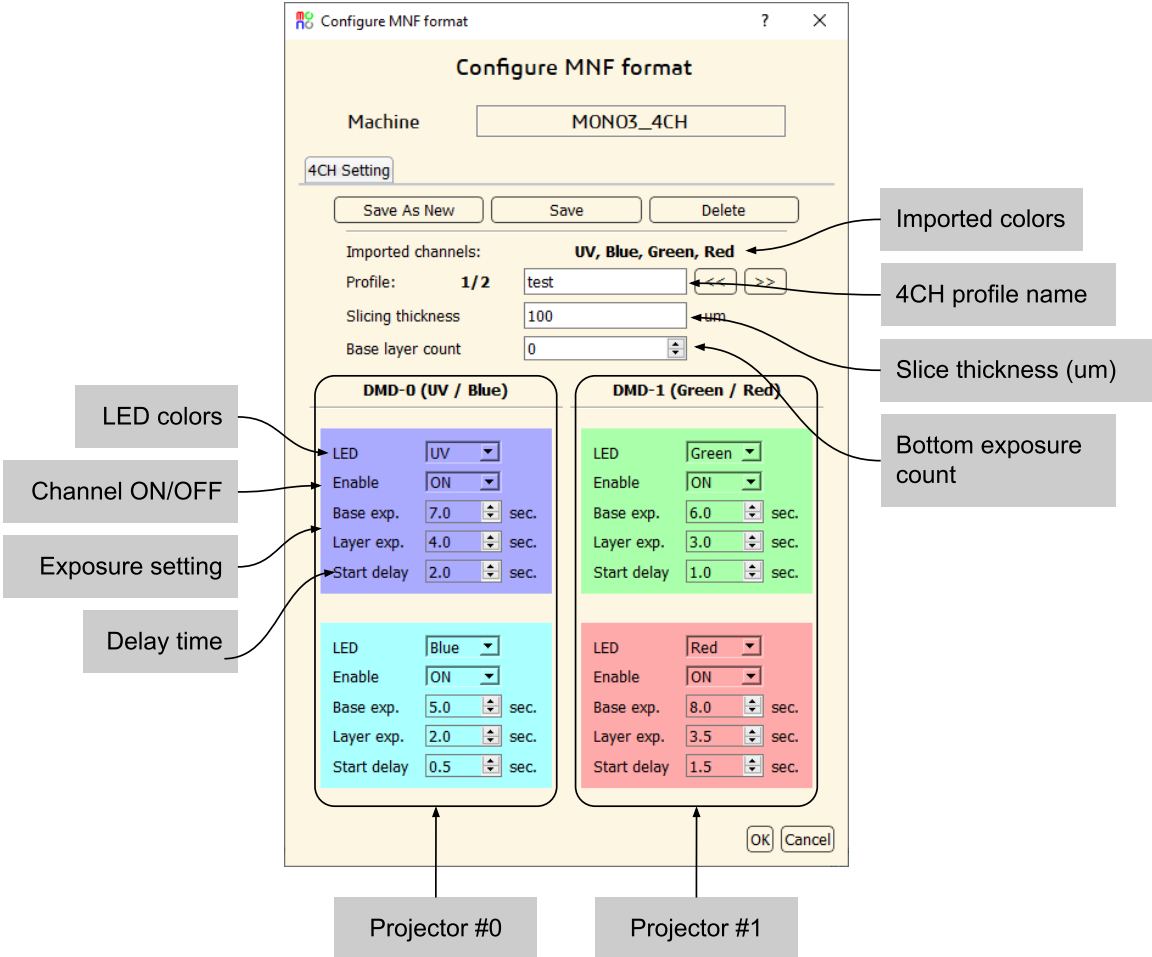

Fig. 7. MNF configuration window for 4CH printer
- The first row (UV and Green in Fig. 7) will be turned on at the same time, and the second row (Blue and Red) will be followed.
- The profile shown in Fig. 7 will turn on LEDs with a following sequence (1 step = 1 sec).